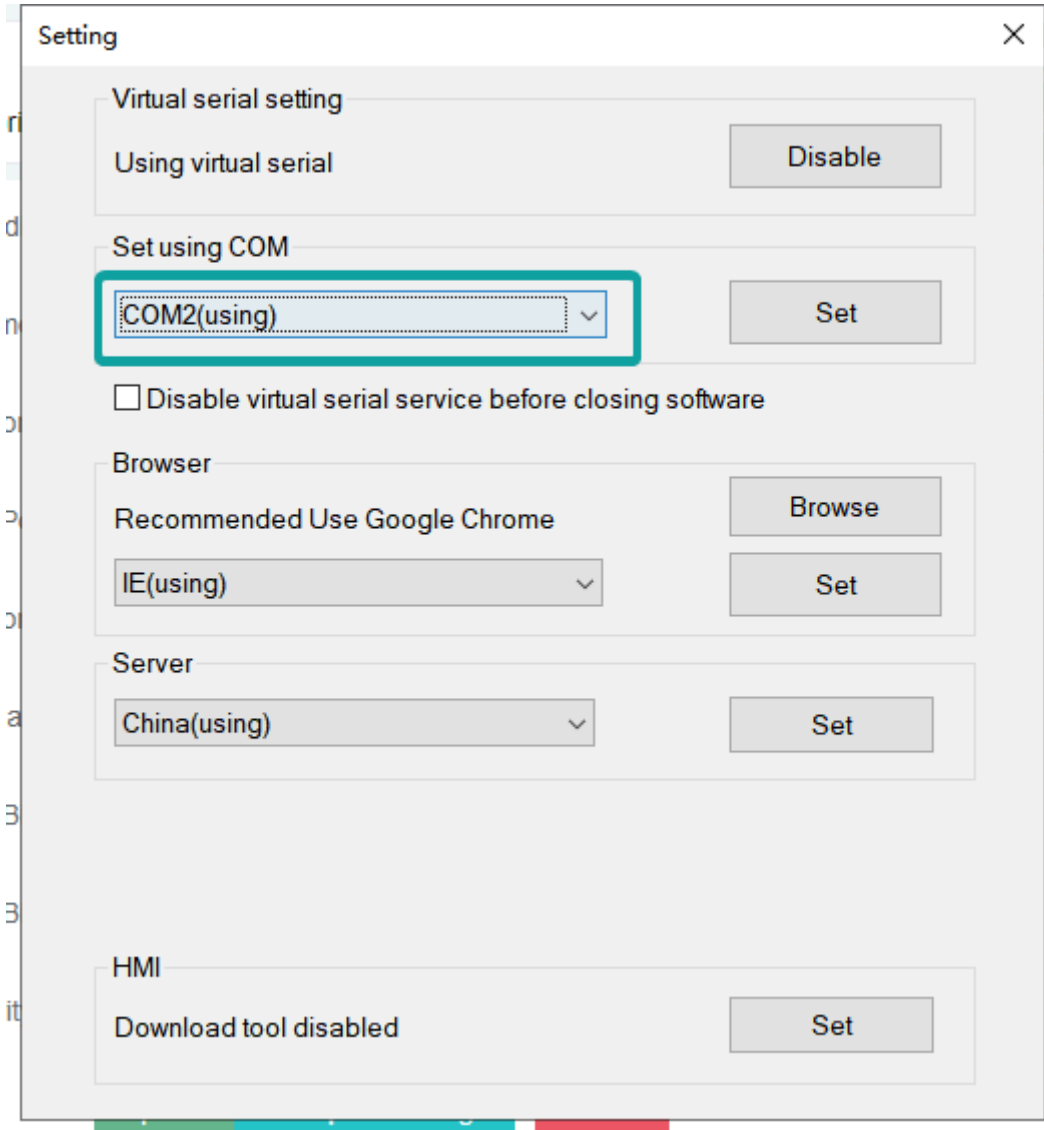

Figure 7
(1) PLC download (only for Pass-through)
① Click the setting (gear icon) in the upper right corner of PC Client, and a dialog will pop up. The red area is the COM port configuration when the PLC pass-through downloads. As shown in Figure 7: